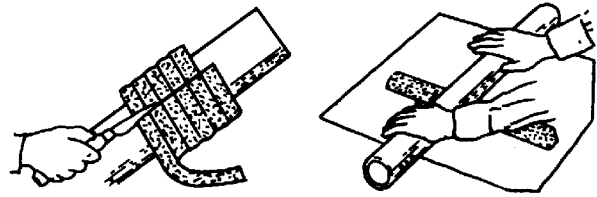

Figure F-8.
Step 1: Determine how much bulk packing will be required to fill the seal cavity and wrap it around a rod the same diameter as the shaft. With the packing wrapped around the rod, cut through each turn as shown in Figure F-8.